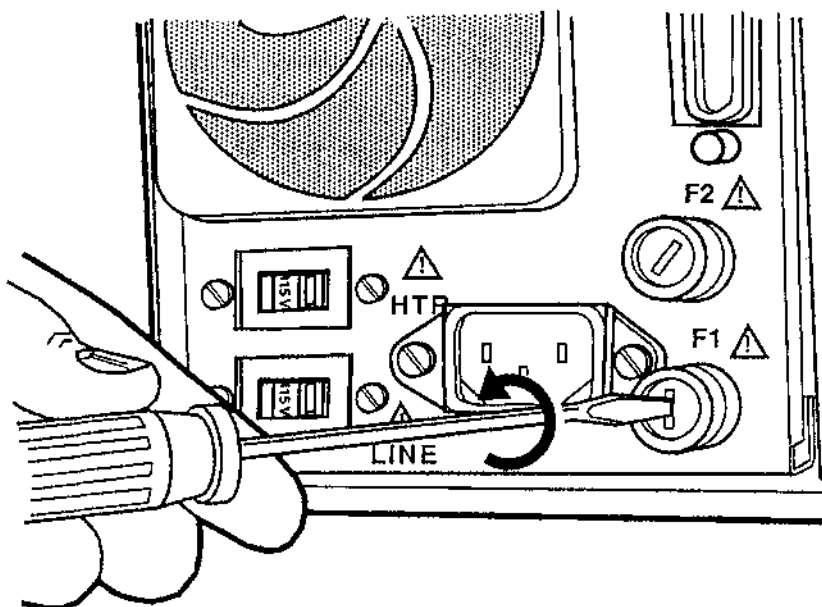

Figure 2-3 Fuse Installation
The fuses are located to the right of the AC receptacle on the rear panel (Figure 2-3). The 410 line fuse (F1) is in the lower, gray fuse holder. The optional upper fuse holder is for a secondary fuse.
1. Use a screwdriver to turn the gray fuse holder counterclockwise and pull it out, as shown in Figure 2-3.